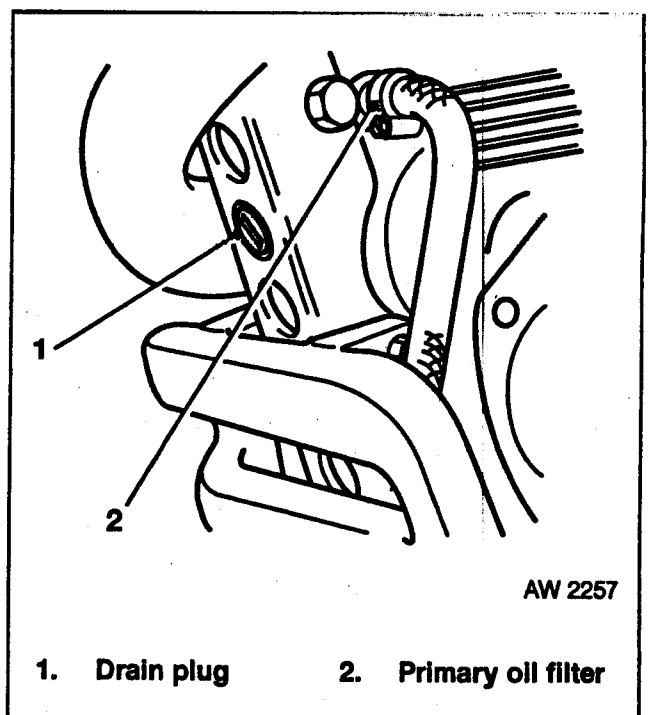

Fig 3.4 Front Frame Drain Plug and Primary Oil Filter
(1) If possible ensure the engine is warm to facilitate and speed the oil draining process.
(2) Drain the frame reservoir by removing the plug situated on the front frame downtube (Fig 3.4(1) refers). Replace sealing washer.
a. The primary oil filter is situated at the front of the frame (Fig 3.4(2) refers) on the left hand side behind the crash bar. To service the primary oil filter it needs to be removed.